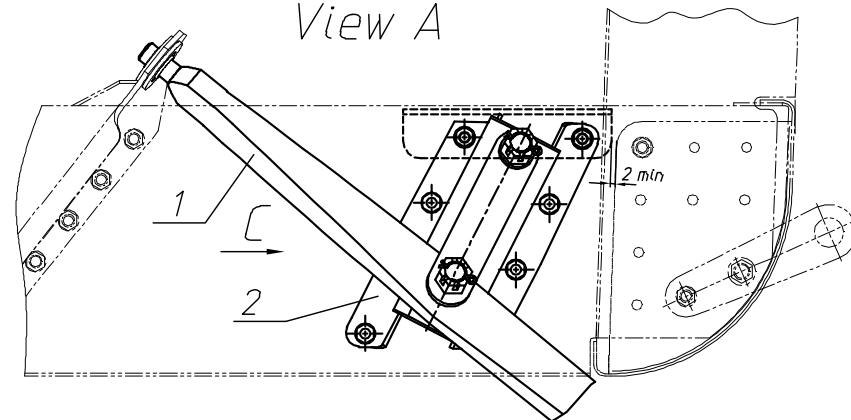
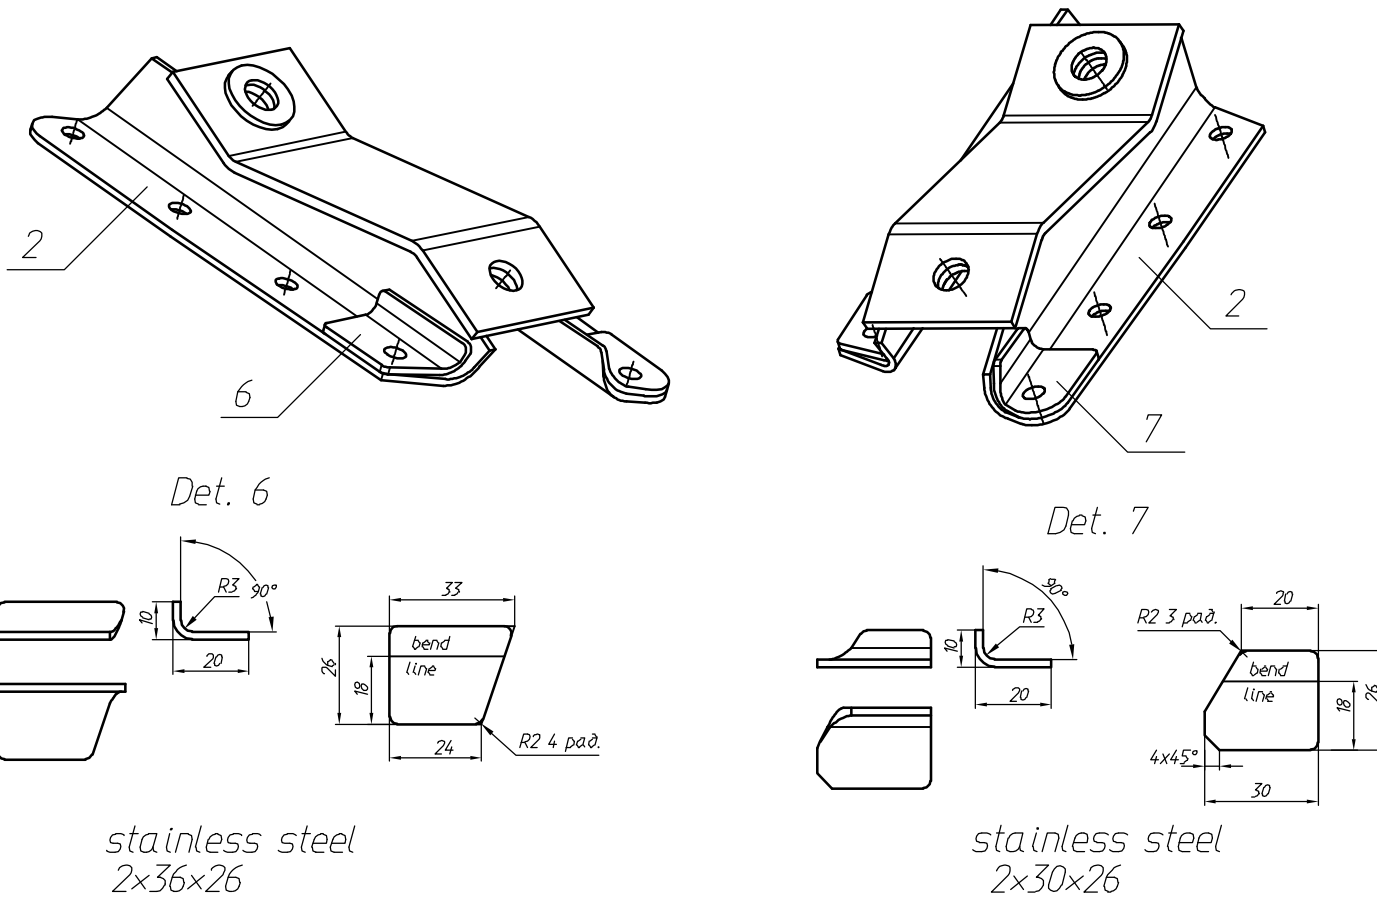

Fig. 2a
Fig. 3
Remove the landing gear legs (1), right and left brackets (2, see fig.1). Inspect the landing gear beam (3) and brackets for absence of cracks in the specified area. If any cracks are detected on the beam, perform the retrofit work according to section 3.1.1 (fig.2a, 2b). In case if cracks are detected on the brackets, perform retrofit work according to section 3.1.2 (fig.3).
*The work is carried out according to fig. 3*
- 2) Fit the reinforcement angles (6 and 7, fig.3) and weld them (use TIG welding) all along their perimeter.